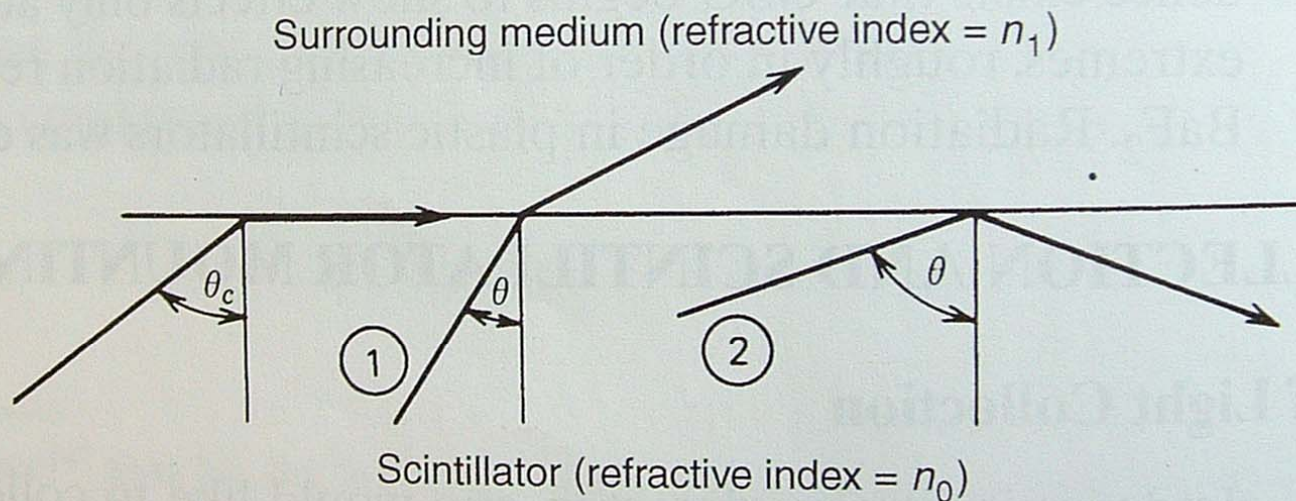

Figure 8.14 Conditions at the interface of dissimilar optical media ($n_0 > n_1$). Ray ① may escape, but ray ② will be internally reflected at the surface.
- The incident angles of the light (reflected or not) is then affected by the surface (of differing optical properties n) and will be governed by Snell's law (Fig. 8.14).